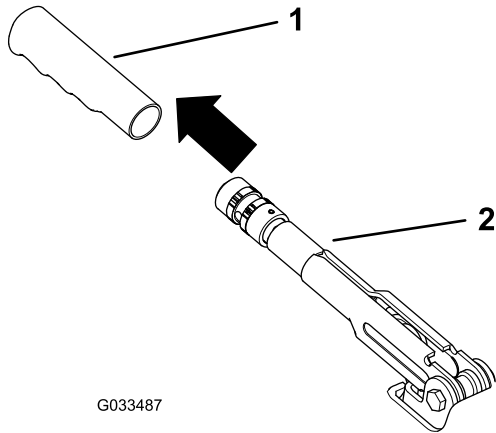

Figure 52
1. Remove the rubber grip from the parking-brake lever (Figure 52).
5. Install the rubber grip onto the parking-brake lever (Figure 52).